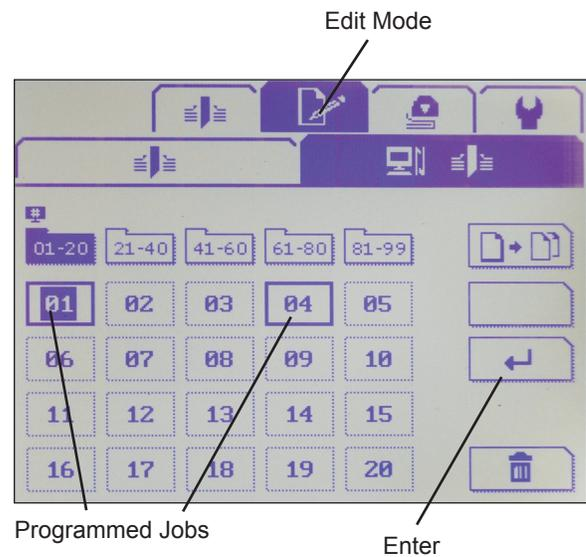

Fig. 3
- Press the Edit button on the touchscreen to enter programming mode (Fig. 3). Select a Job Number by pressing that block on the screen. Then press Enter. **NOTE:** Jobs that are already programmed are outlined.
1. Go to the Edit mode (Fig. 3) and select a job to be programmed.
1. Go to Edit mode (Fig. 3) and select a job to be programmed.